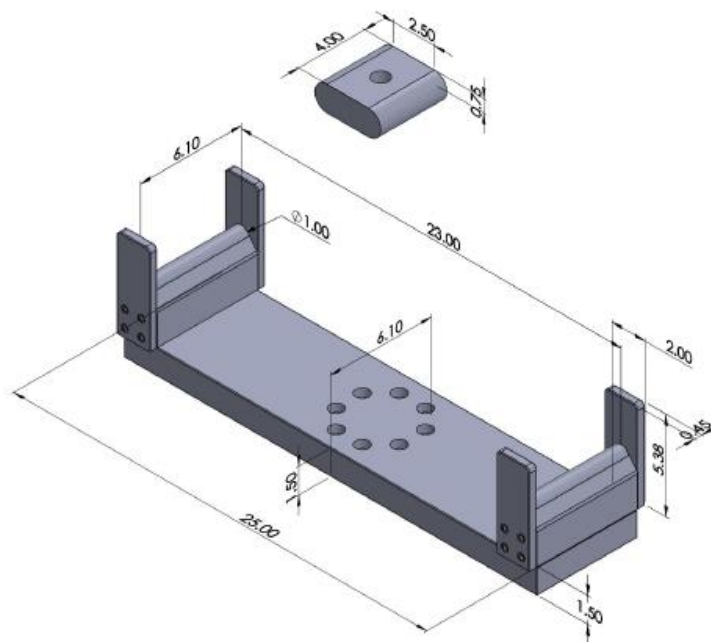
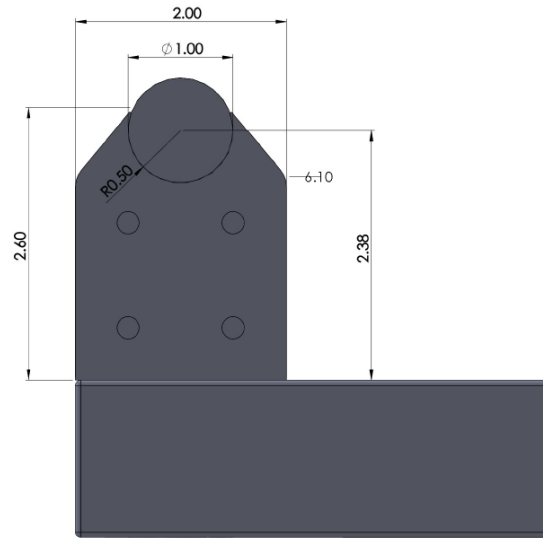

Figure 6. Loading Fixture with Bridge
Figure 7. Lower Contact Point
- 5.3. Equipment. The fixture consists of a base and loading block, shown in Figure 6. Dimensions for the lower contact points are further dimensioned in Figure 7. The corresponding load case is depicted in Figure 7. The fixture will be installed and oriented prior to the competition; adjustments are permitted during the competition.